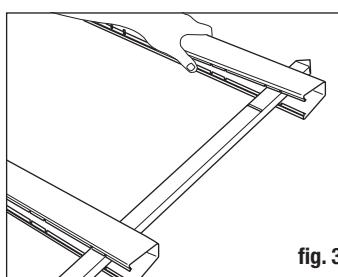

fig. 3
- Continue to push the picket through the bottom rail into the throat and hole of the second rail (fig. 3). The second rail becomes the top rail of the assembly. Stop when the tab on the bottom rail and the notch on the picket align. **DO NOT SNAP INTO PLACE**.